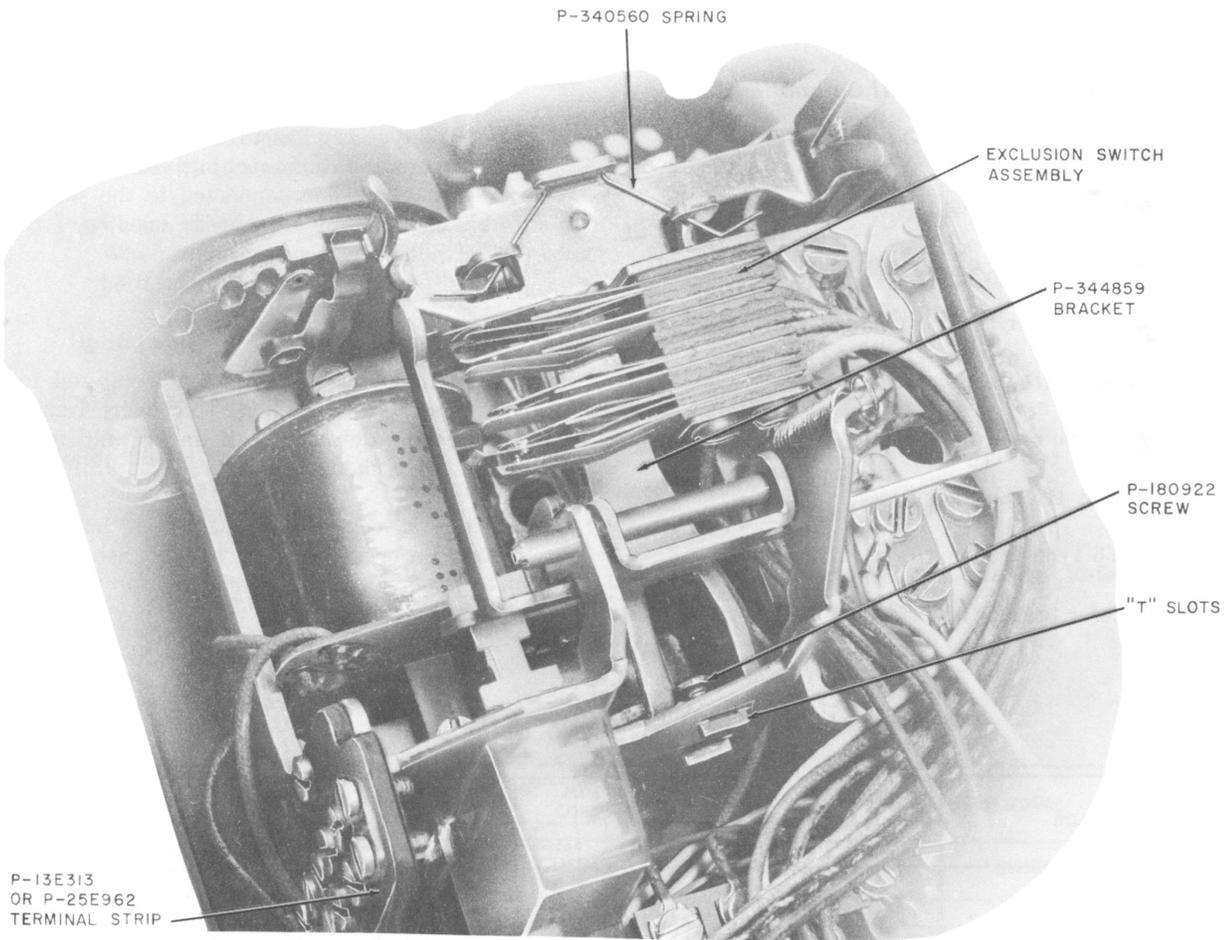

Fig. 3—D-179935 Exclusion Kit, Installed
- (1) Insert the P-344859 bracket into the two T slots precut in the line switch bracket (Fig. 3).
- (2) Tighten the P-180922 screw which holds the bracket in the T slots.
- (3) Mount the P-340560 spring and exclusion switch assembly on the bracket (Fig. 3).
- (4) Remove the P-13E953 plunger from the left side of the telephone set housing and replace it with the P-14A613 exclusion plunger.
3.24 These auxiliary terminal strips are attached to the line switch bracket as shown in Fig. 3.